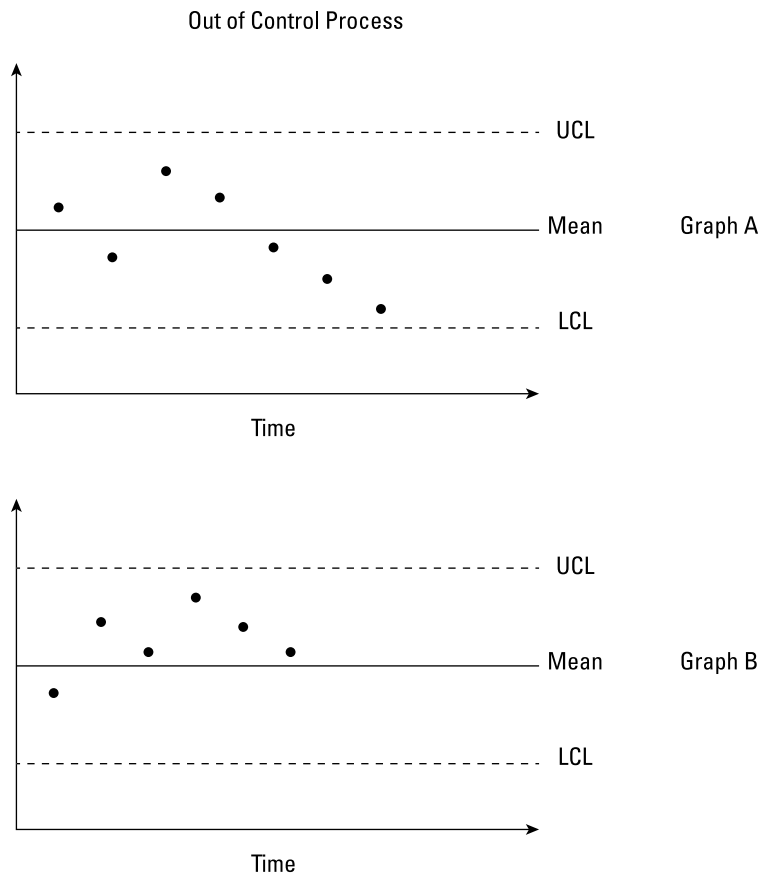

FIGURE 12-8:
- » **Type II errors** (or false negatives) occur when you conclude a process is in control when it's actually out of control. That is, even if all values on your control charts are within the control limits, it's still possible that the process may be out of control. Figure 12-8 shows two examples of a process that can be out of control even though all values fall within the control limits.
Graph A in Figure 12-8 shows a *run* — a trend of five or more observations that are either going up or going down — which can indicate the process is out of control (even if all points are within the control limits). Tool wear and other machine-based functioning issues can cause performance to trend in one direction. In this case, an operations manager needs to take action to correct the trend.
If five or more consecutive observations are above or below the mean, which is the situation that's shown in Graph B of Figure 12-8, then this also indicates that the process may be out of control; you should investigate to find out what in the process has changed to cause the mean to shift.